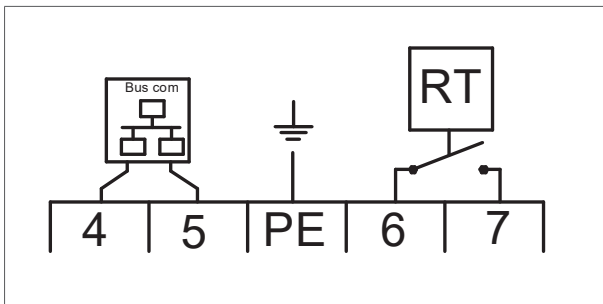

Figure 6 - Bus communication connection
1. Connect the two control wires to terminals 4 and 5 (see figure 6 or the electrical wiring diagram in §9.).